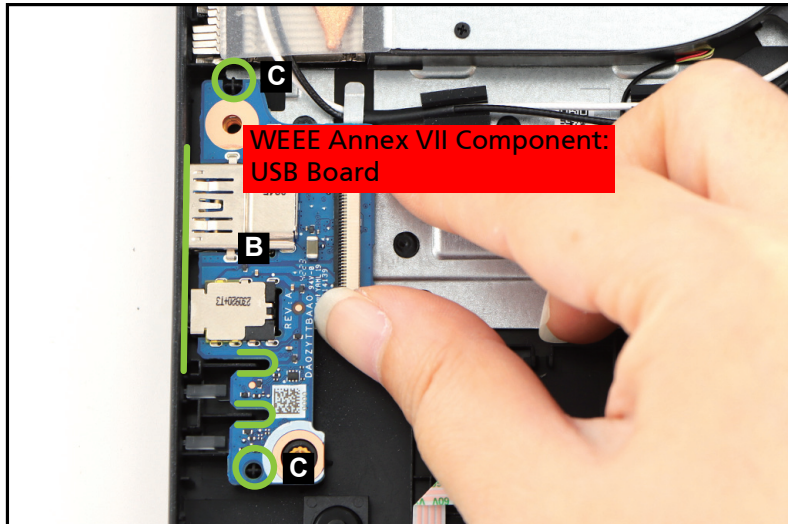

Figure 1-23. USB Board Removal
3. Release the USB board (B) from the I/O port slots, guide pins (C), and guide studs (highlighted with the green lines) on the top assembly (Figure 1-23). Then remove the USB board.